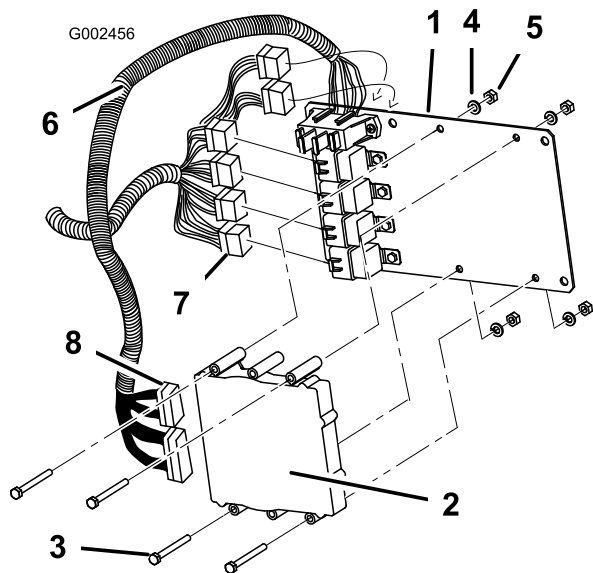

Figure 7
5. Secure the ECU to the mounting plate (Figure 7), using 4 bolts (1/4 x 2-1/2 inch), 4 lock washers (1/4 inch), and 4 nuts (1/4 inch).
6. Connect the relay leads on the wiring harness to the 6 relays on the mounting plate (Figure 7).
7. Connect the 2 controller leads (one long and one short) on the wiring harness to the ECU (Figure 7).